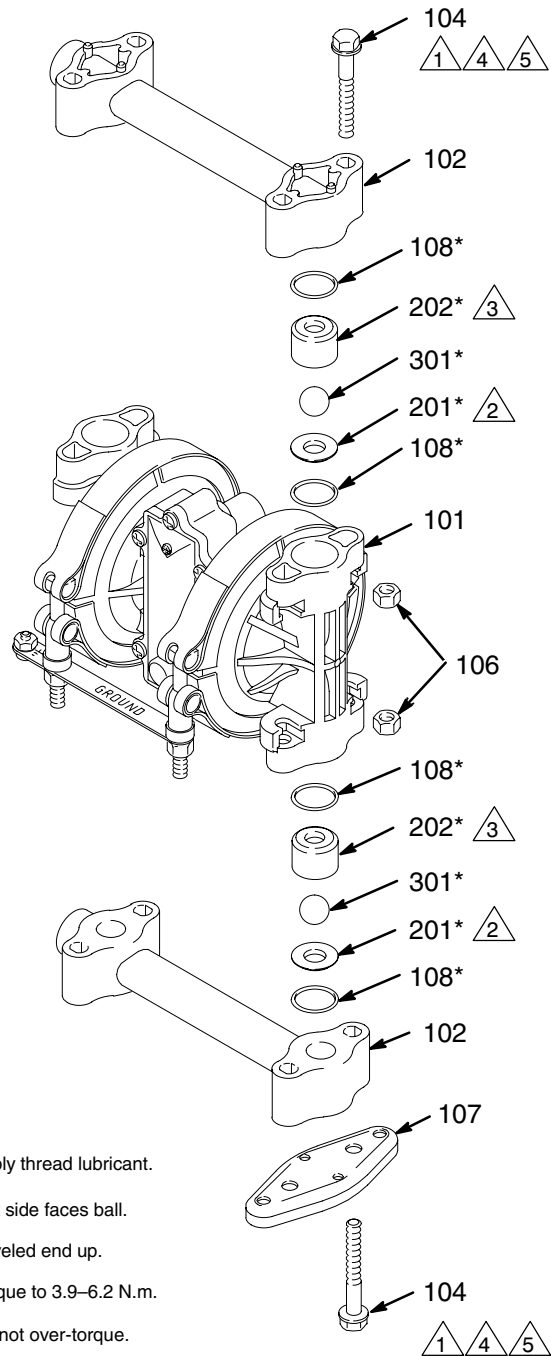

Fig. 13
2. Using a 1/2" socket wrench, remove the bolts (104) and nuts (106) holding the top manifold (102) to the covers (101). Lift the manifold off the pump. See Fig. 13.
3. Remove the outer o-ring (108), ball guide (202), ball (301), seat (201), and inner o-ring (108) from each of the covers.
4. Turn the pump over and remove the bolts (104), nuts (106), feet (107), and lower manifold (102).
5. Remove the outer o-ring (108), seat (201), ball (301), ball guide (202), and inner o-ring (108) from each of the covers (101).
7. Reassemble in the reverse order, following all notes in Fig. 13. Be sure the ball checks are assembled **exactly** as shown. To avoid pump leakage, run your finger over the o-rings (108) and ensure that they are seated properly.